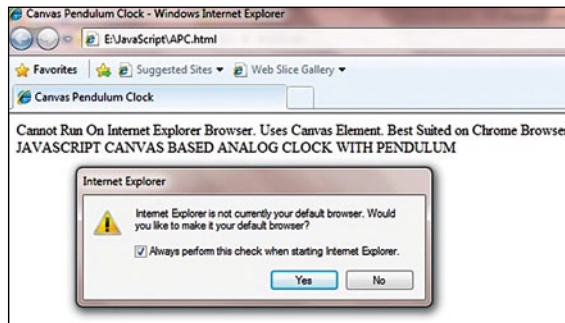

Fig. 2: Error message
In 'Javascript Based Canvas Pendulum Clock' DIY article published in February issue, the screenshot (Fig. 2) on page 124 is wrong. An error message is supposed to pop up if Internet Explorer (IE) is used but, instead, it is asking for the default browser. When a script is not supported in IE, it should not show anything.
The screenshot is correct. If you have installed more than one browser, say, IE and Google Chrome, on your PC, and if these are run for the first time, the message asking which browser should be used as default pops up. 'Cannot Run On Internet Explorer Browser' error message is shown along with other messages. The same is reproduced here in Fig. 2.